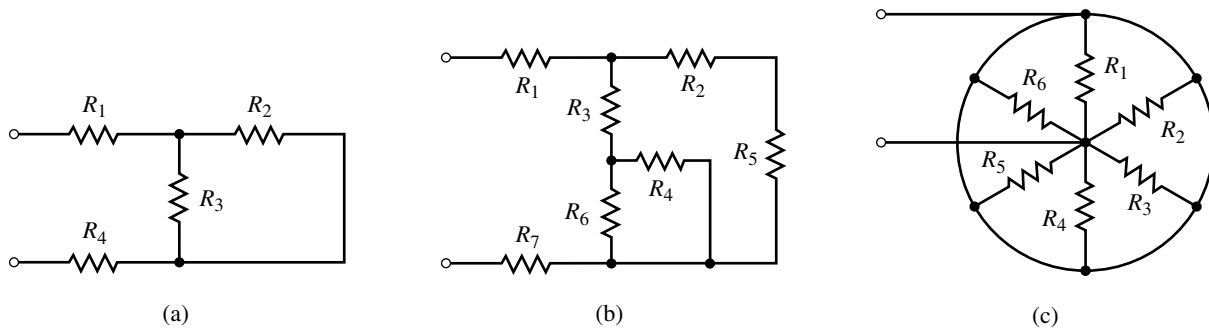

FIGURE 6–48
2. For the networks of Figure 6–48, indicate which resistors are connected in series and which resistors are connected in parallel.
3. Without changing the component positions, show at least one way of connecting all the elements of Figure 6–49 in parallel.